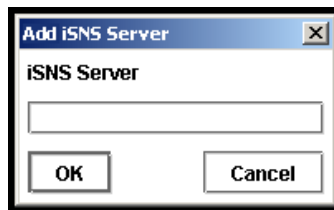

Figure 154. Adding an iSNS Server
1. Click Add. The Add iSNS Server window opens, shown in Figure 154.